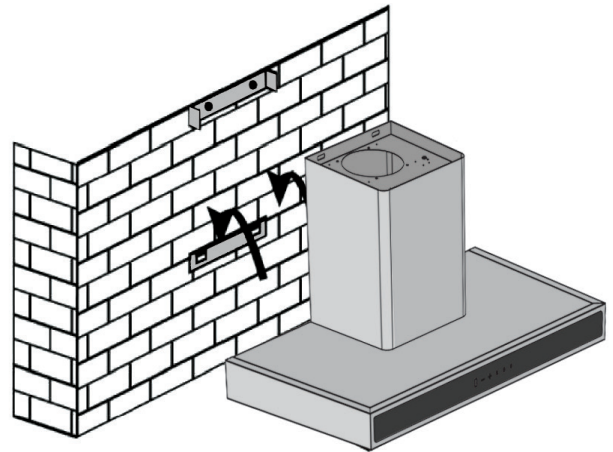

Figure 3
- Hang the range hood on the hooks of the lower mounting bracket (see Figure 3).